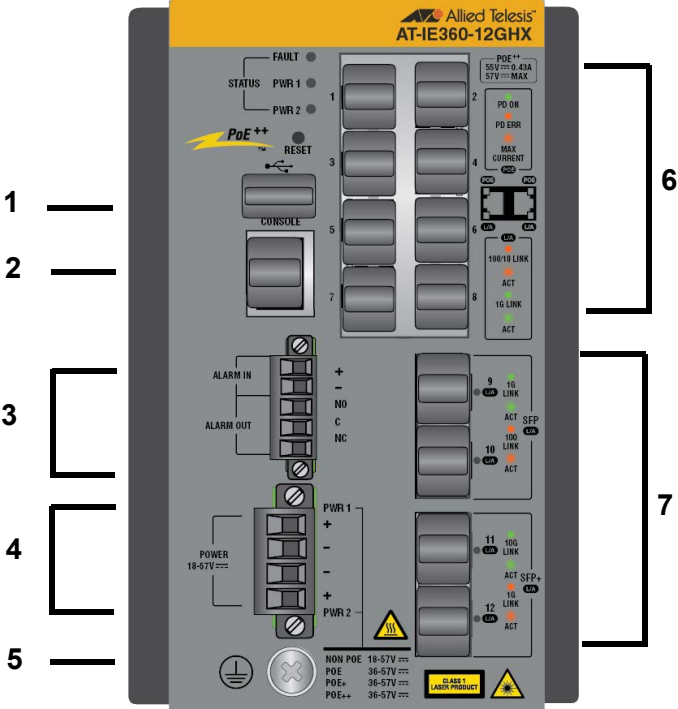

Figure 14. Pre-installed Components
- Verify the contents of the shipping container. Figure 14 and Table 13 identify the pre-installed components.